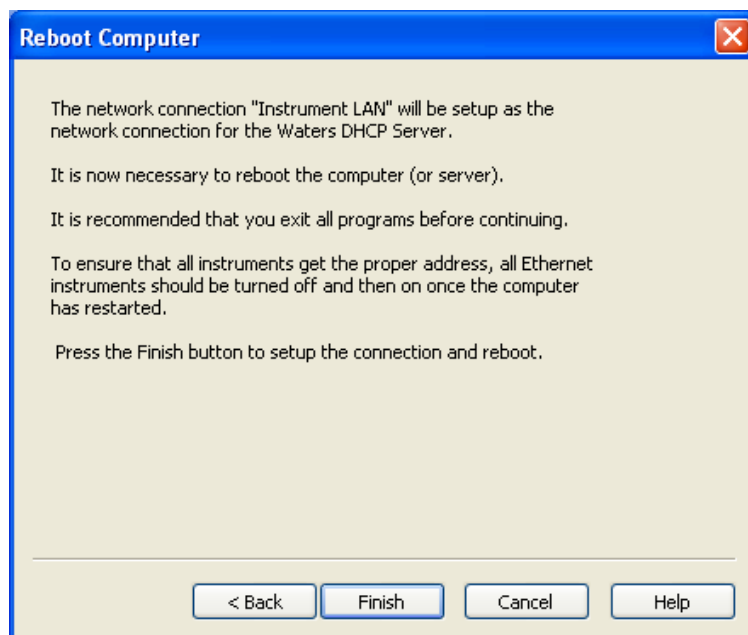

Figure 5: Reboot Computer Page
7. Click **Default** (192.168.0.1), then click **Next**. The Reboot Computer page appears (Figure 5).